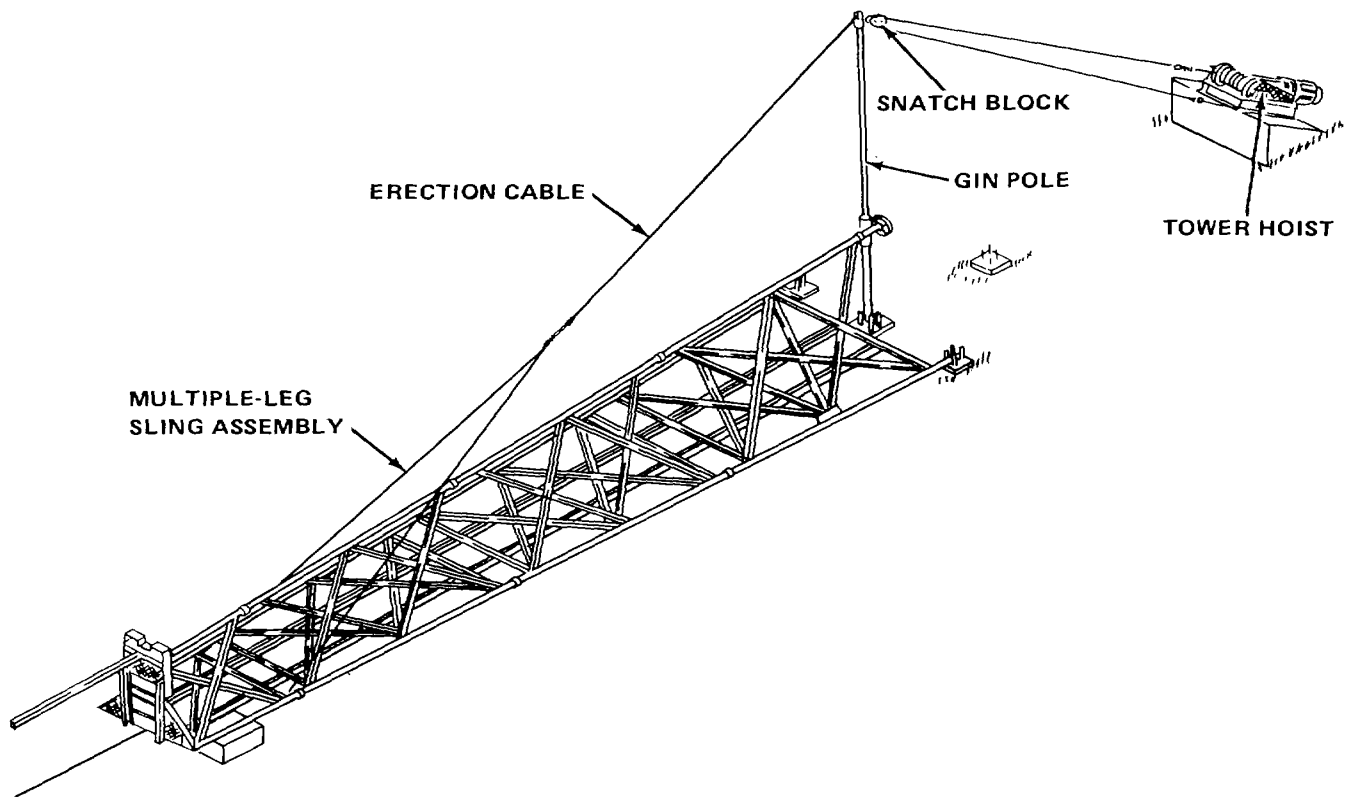

Figure 1-2. Tower Erection Kit
d. *Tower Erection Kit.* See figure 1-2. The items in the tower erection kit, together with a winch truck and common hand tools, are used to raise and lower the assembled tower. No other additional heavy equipment, such as a crane, is needed for this purpose. The kit consists of a gin pole, a snatch block, an erection cable, a multiple-leg sling assembly, and a tower hoist.